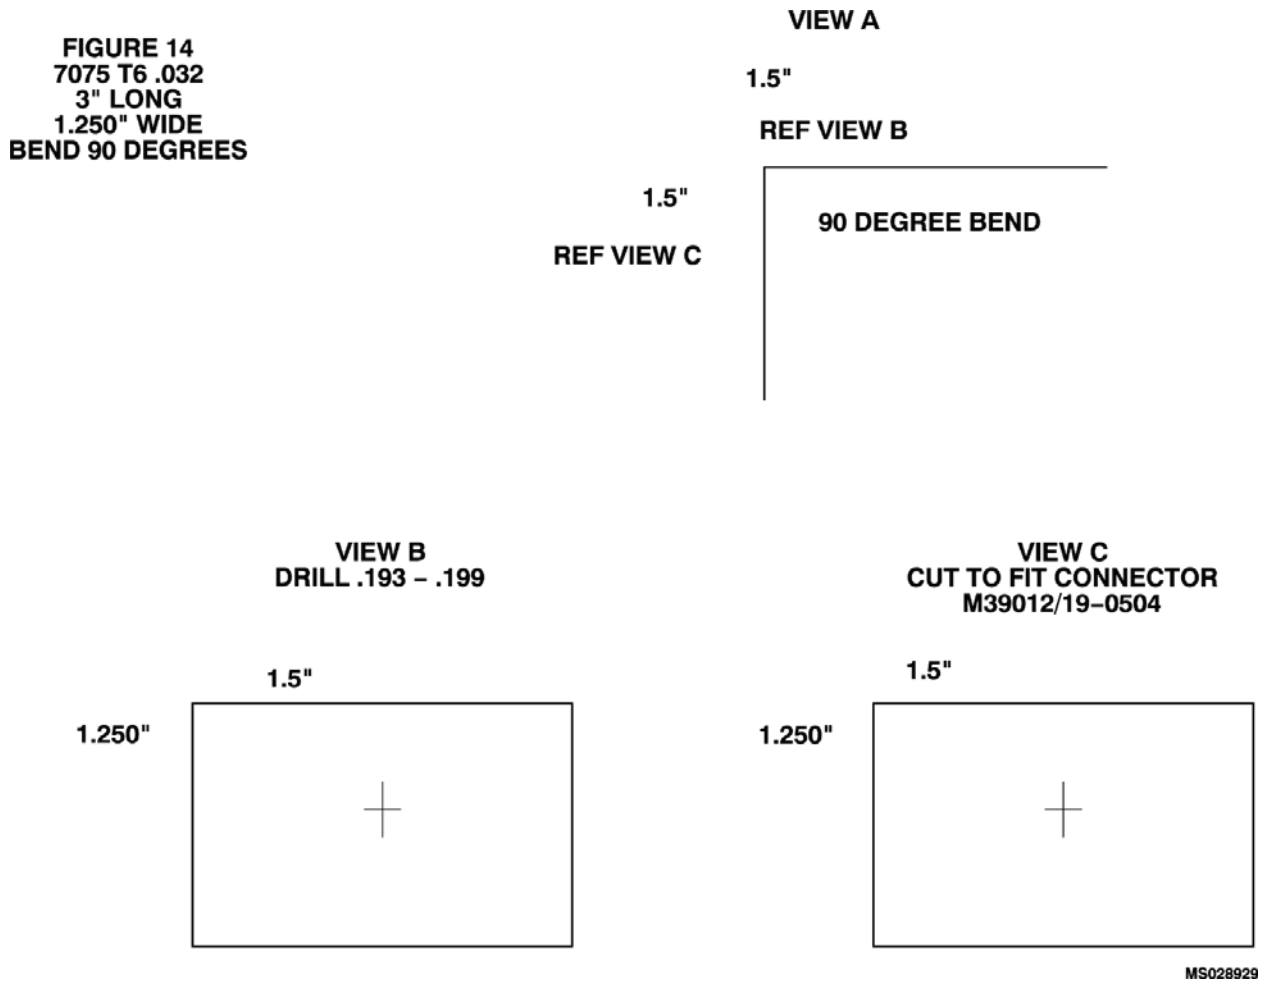

Figure 14.
- (8) Fabricate angle bracket from 0.032 inch 7075T6 aluminum IAW figure 14. Treat IAW TM 1-1500-204-23 and paint to match interior of cabin.